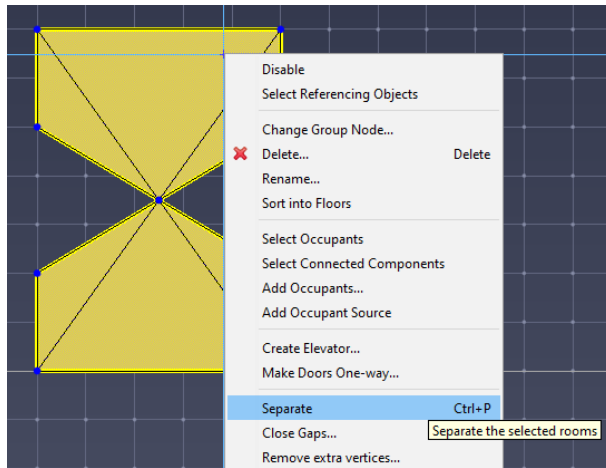

Figure 30. Single room shared point
2. Select **Separate** from either the **Model** menu or the right-click menu (Figure 30).